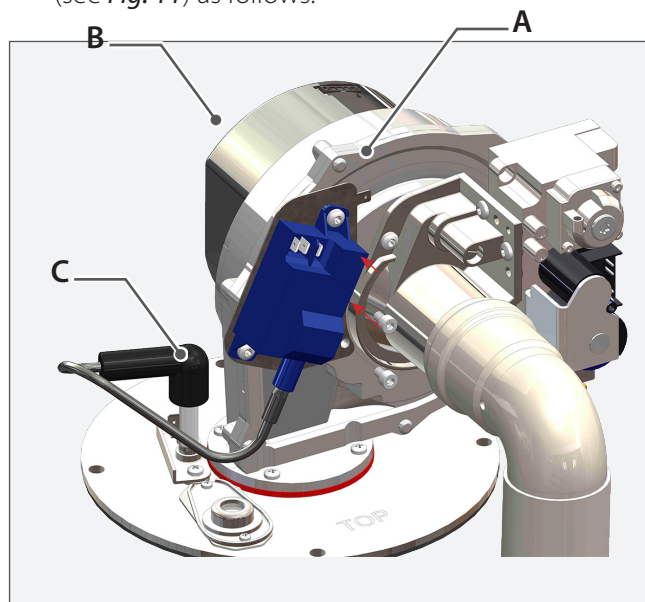

Fig. 10 - Spark Generator and Bracket (PT 60-110)
2. Locate the spark generator with bracket (A) on the blower (B). (See Fig. 10), and secure using 2 of the venturi-to-blower screws.
3. Connect the spark generator cable with connector (C) to the new igniter.